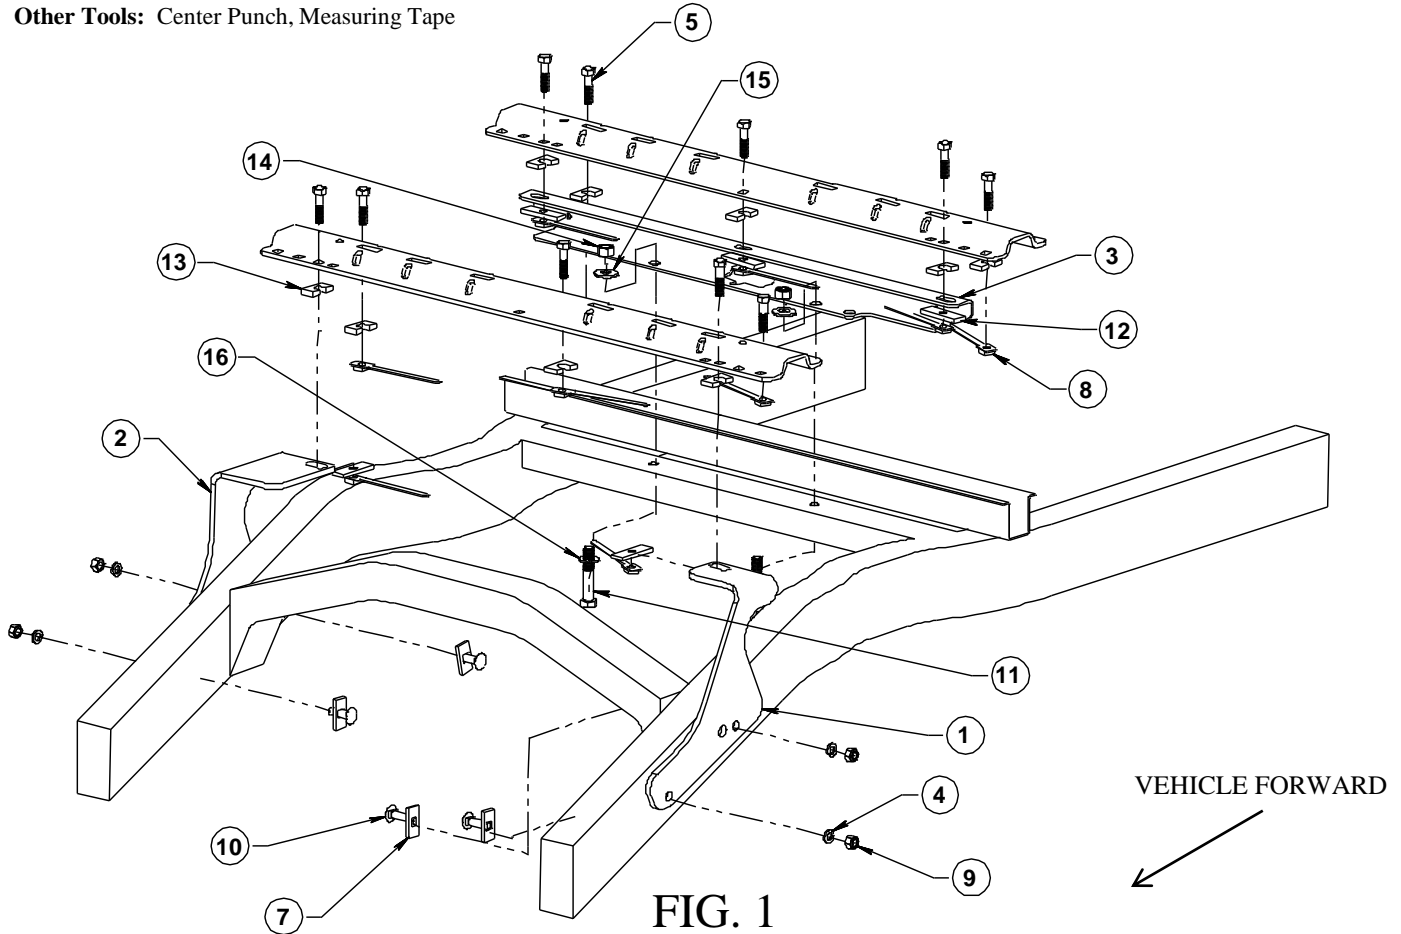

FIG. 1
13. Fasten the c-channel to the vehicle frame as shown in Figure 1 using 5/8" hardware. Bolt up through the trucks cross member.
14. Reposition the mounting rail over the holes in the bed and fasten the mounting rail to the c-channel using the supplied 1/2" hex bolts (as shown in figure 1). Use the supplied U-shaped blocks between the c-channel or mounting rails and the truck bed to ensure metal to metal contact.
18. Install the front frame rail brackets as shown in figure 1, use supplied U-shaped blocks. The brackets install ahead of the hat section that supports the bed. Use the 1/2" pull wire to pull the carriage bolts and square hole plates into the frame.